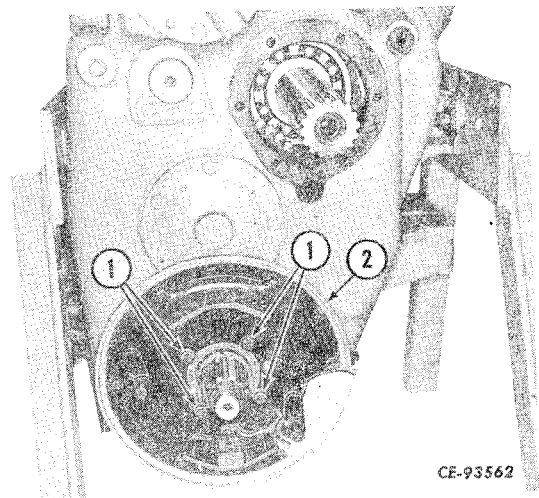

Figure 4-22
Remove cap screws (1, Fig. 4-22) that secure backing plate (2) to transmission. Remove backing plate.